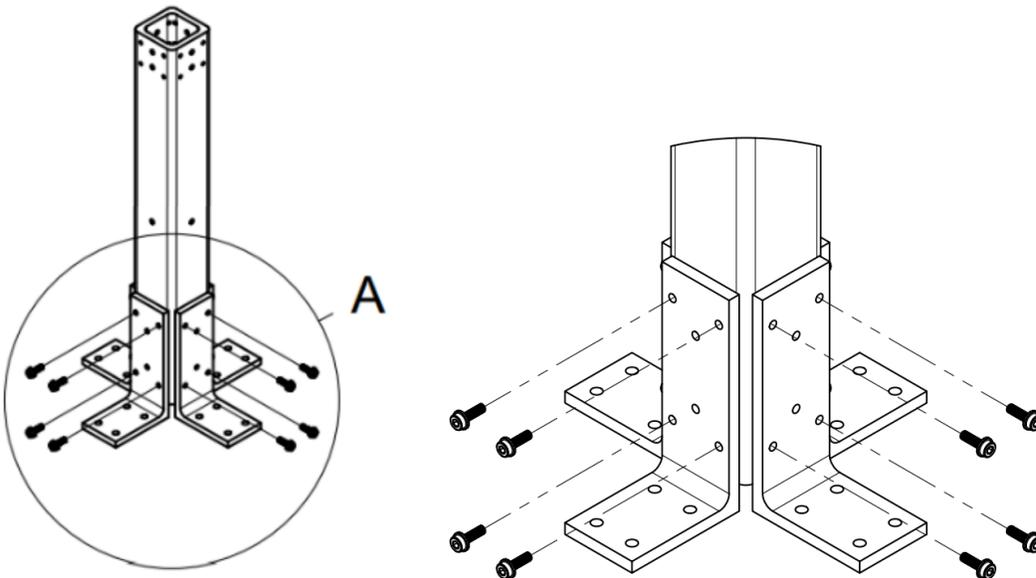

Fig. 1. Stand Assembly - Lower Section with L-Brackets
Step 1. Place the stand on flat ground and install four lower L-brackets as indicated in Fig. 1.: